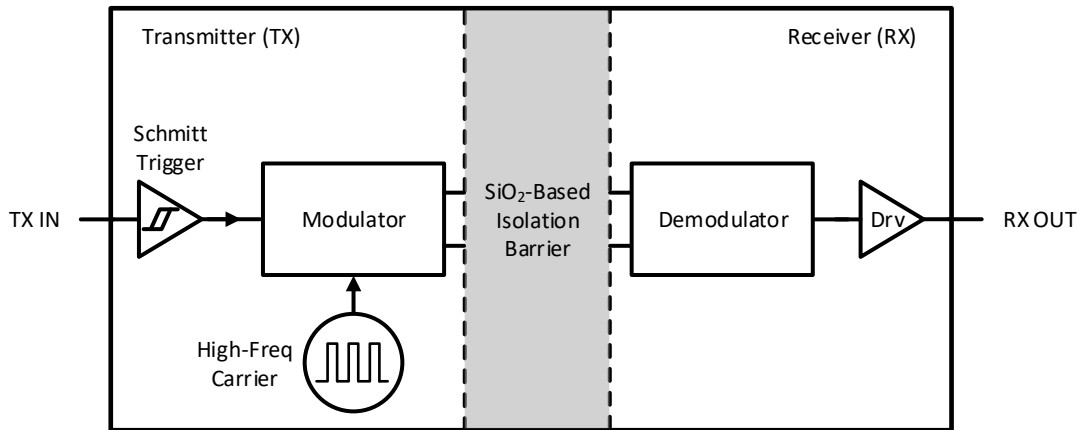

Figure 9-2 Block Diagram of an Isolation Channel
The CA-IS1300x devices utilize a simple on-off keying (OOK) modulation scheme to transmit the digital bitstream across the SiO₂-based isolation barrier which supports up to 5-kV_{RMS} galvanic isolation between high- and low-voltage domain. The block diagram of an isolation channel is shown in Figure 9-2. As shown in Figure 9-3, the transmitter (TX) modulates the digital bitstream with